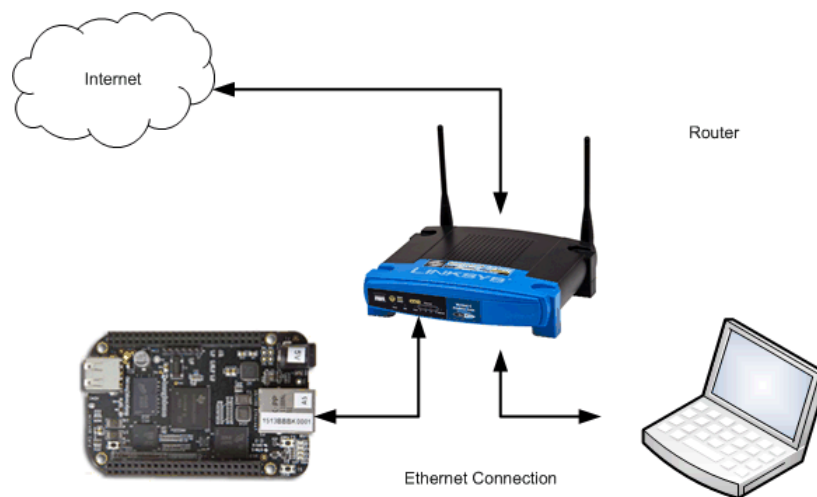

Figure 6. BBB to Linux or Windows Host Connection Using Network Router
- In some configurations, a standard Wi-Fi™ router may be required (see Figure 6 for details)